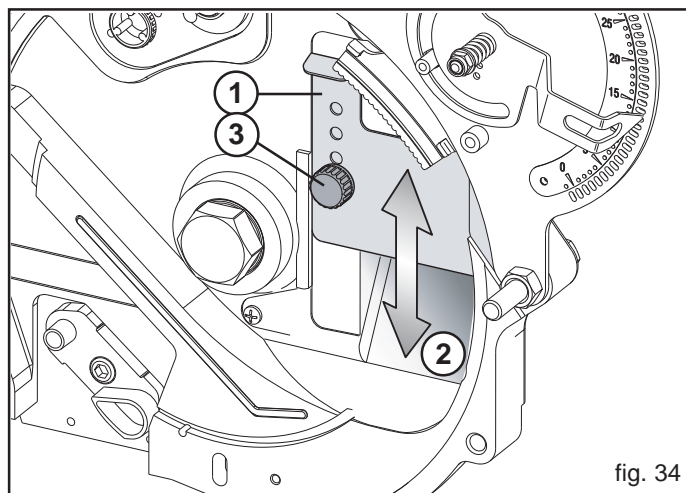

fig. 34
Four possible adjustment positions are available for the anti-overflow plate (1, Fig. 34), which defines the width of the seed inlet section (2, Fig. 34) so that the seeds do not come out of the distributor due to excessive feeding. Adjustment is particularly needed when the ground slopes steeply or when working with small seeds.
N.B.: Ensure that the knob (3, Fig. 34) has been well-tightened.